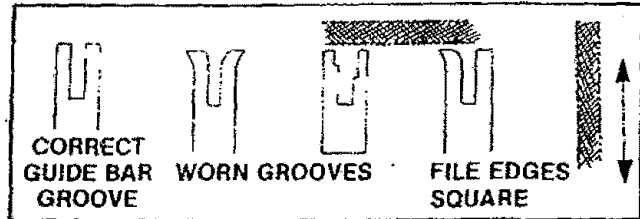

Figure 41
- d. Remove burrs by filing the side edges of the guide bar grooves square with a flat file. Figure 41.
- e. Restore square edges to an uneven rail top by filing with a flat file. Figure 41.